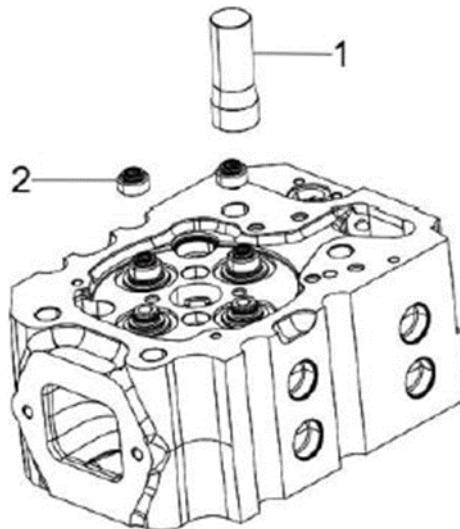

Figure 79. Valve Steam Seal Installation Tool
2. Oil the lip of the valve stem seal (Figure 79, item 2). Using the valve stem seal installation tool (Figure 79, item 1), install a new valve stem seal on each of the valve guides.